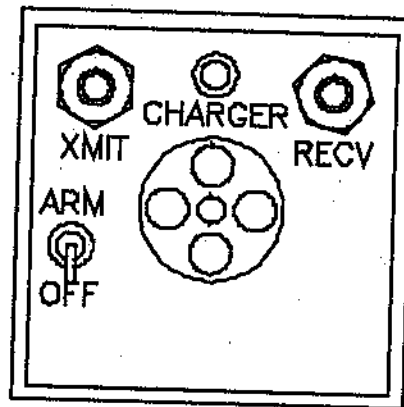

Figure 3-2
Step 7. Set the ARM/OFF switch on all sensors to ARM (Figure 3-2).